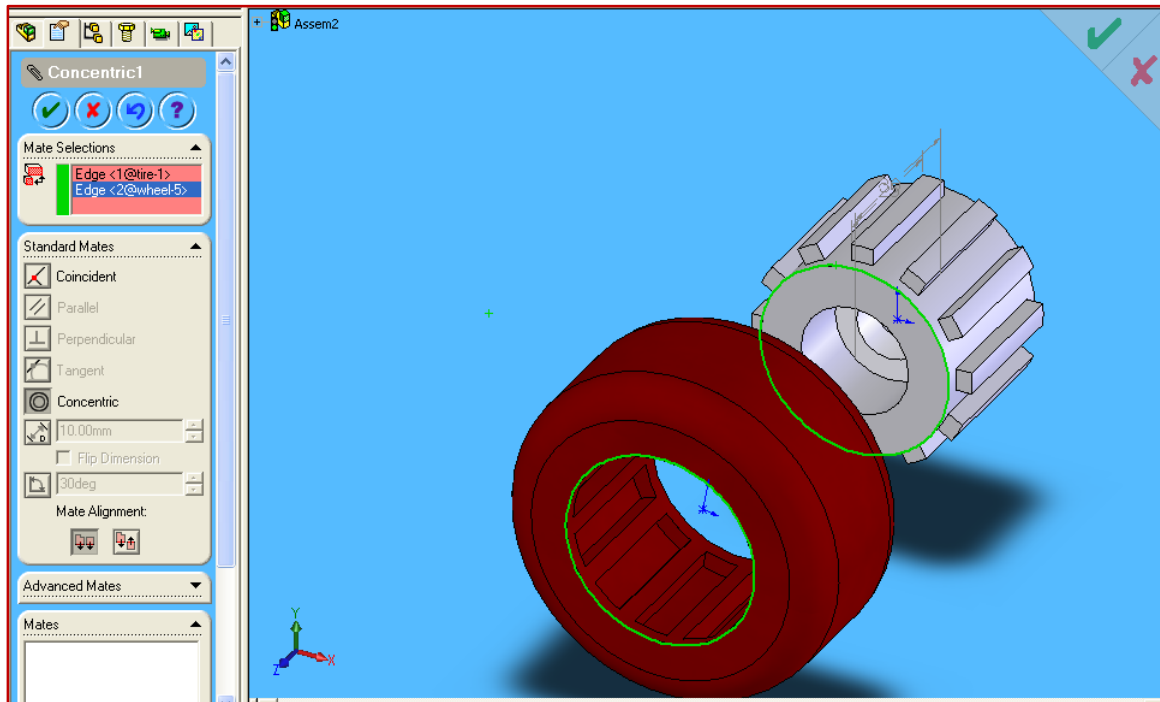

Figure 10.4 – Selecting Concentric Mate
- ✓ First, we will make the wheel and the tire **Concentric**. Click the command **Mate** on the **CommandManager** toolbar and click the inner rim of the tire and the outside edge of the wheel. Select **Concentric** on the **Standard Mates** panel. See Figure 10.4.